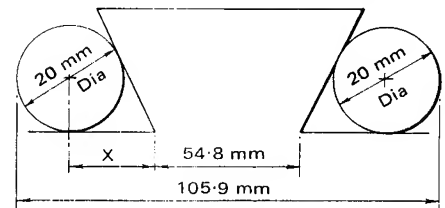

Fig. 1.29
- Find the dimension X shown in Fig. 1.29.